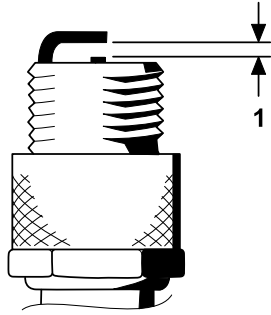

Figure 42
- Set the air gap between the center and side of the electrodes at 0.76 mm (0.030 inches) as shown in Figure 42.